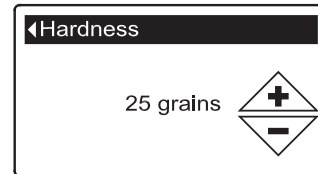

FIG. 102
5. Press the SELECT (O) button to display the Hardness screen (See Figure 102).